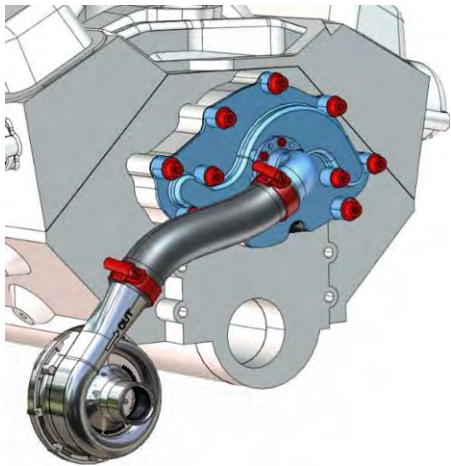
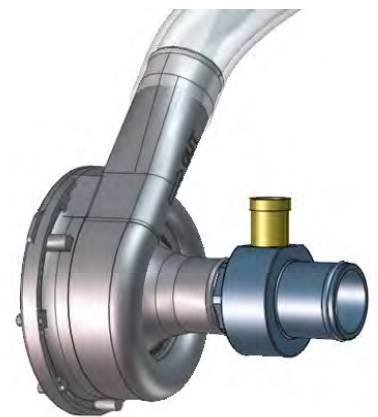

Figure 5
Figure 6
8. Slide the secured Bottom Radiator Hose over your EWP[®] outlet (refer Figure 5) and secure with the loose Hose Clamp as described in Step 7. Screw the Heater Return Adaptor & Hose Fitting (refer Figure 6, if applicable) into the EWP[®] inlet then position and align the EWP[®] with the bottom radiator outlet. Secure the Heater Return Hose to hose fitting. **NOTE: Ensure your EWP[®] is located as low as possible relative to the Radiator outlet to avoid trapped air.**